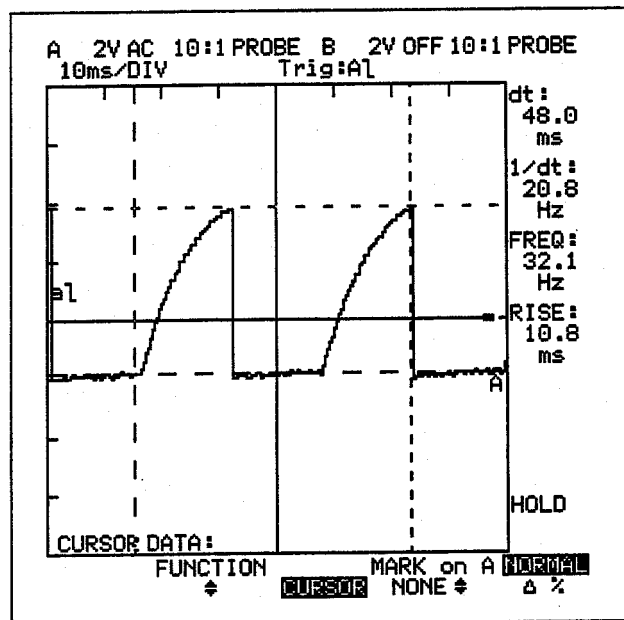

Figure 6.21
- Use **[CURSOR]** and **[CURSOR]** to locate the cursors as shown in Figure 6-21.